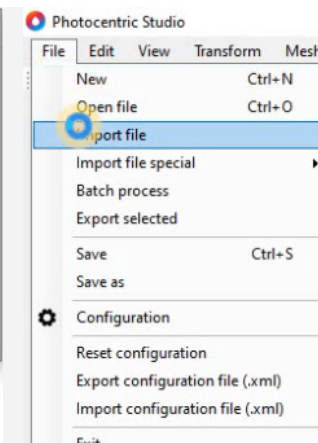

Figure 7
- Click 'File' and 'Import File' to open your files in Photocentric Studio (figure 7).